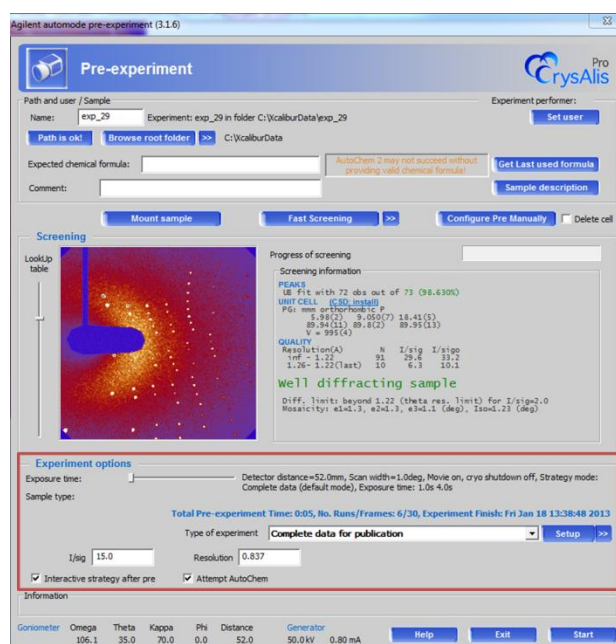

Figure 10: Full screening window with strategy options highlighted
- By default ten images of the sample will be recorded, which can be used to check sample quality, and determine the details of the pre-experiment (see Figure 10). If the crystal quality is too poor, the user can simply click on **Mount sample** again and repeat the process to quickly check through several candidate crystals. Information about crystal quality and suggested unit cell parameters is shown next to the accumulated diffraction image.
9. Details of the calculated pre-experiment are shown at the bottom of the screen, with the option for the user to define what strategy they would like to aim for with regards to the actual experiment (Figure 10). To override the suggested settings the slider allows for a manual adjustment of the exposure time, and the drop-down menu offers different types of experiments, such as complete, redundant, or time-limited collections. Select **Start** to begin the pre-experiment.